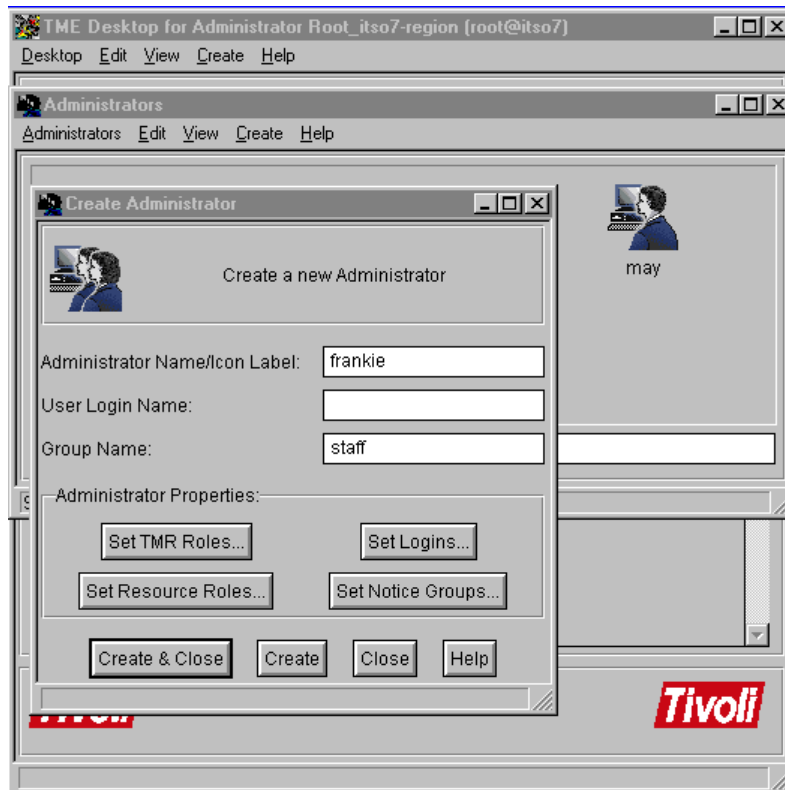

Figure 8. Group names
4. Enter the name of the group. This field is used to determine the GID under which many operations are performed. Then select **Create and Close**. This is shown in Figure 8 on page 25.